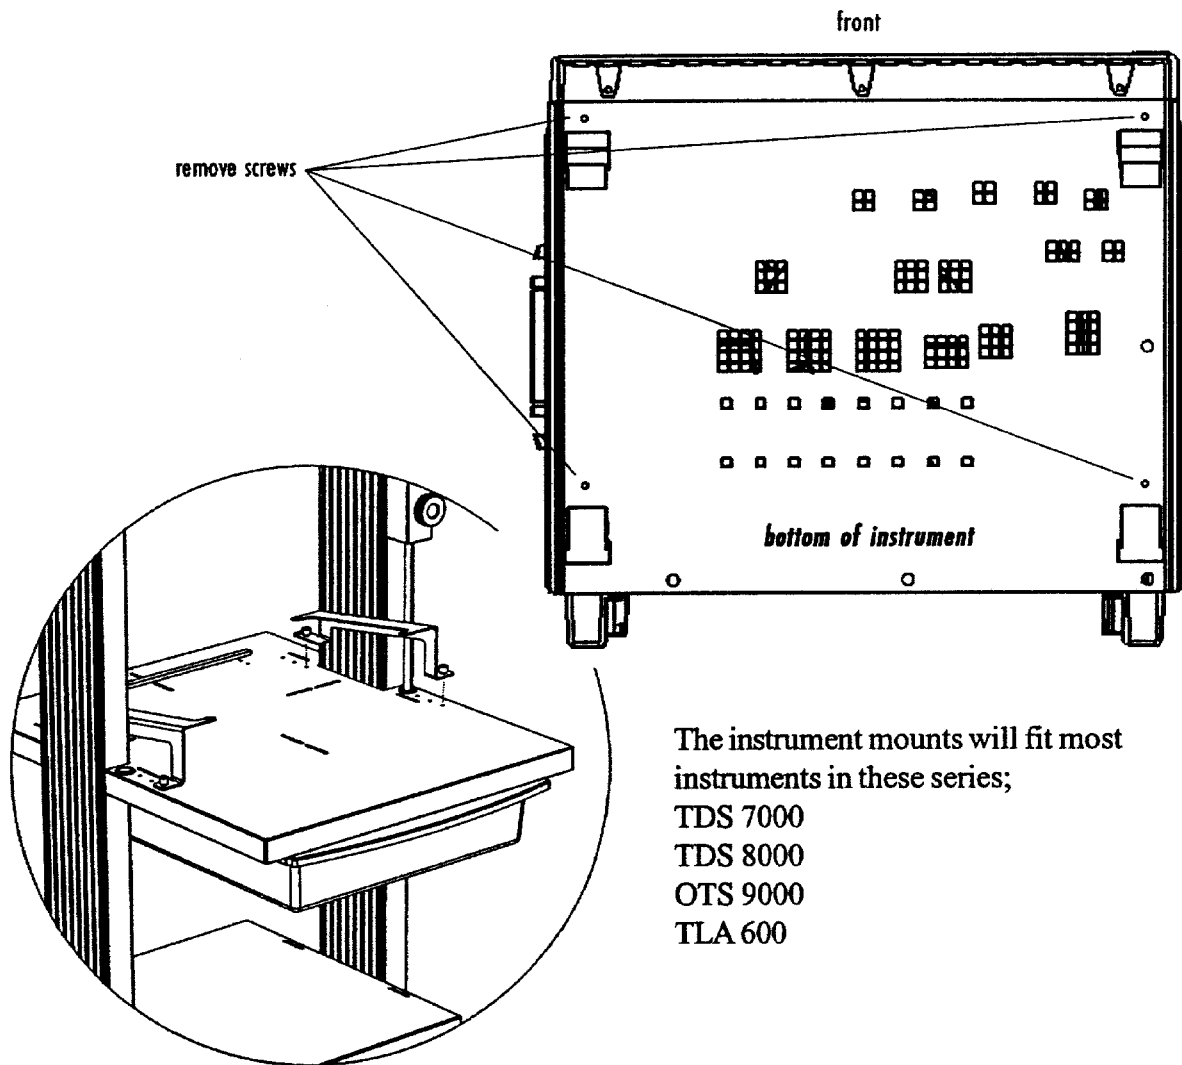

Figure 19: Installing the Instrument Mounts
- 2. The keyboard shelf has a hole pattern with threaded inserts that accept the instrument mounts as shown in Figure 19. Lower the instrument with the instrument mounts attached into position and secure the mount by tightening the captured fasteners.